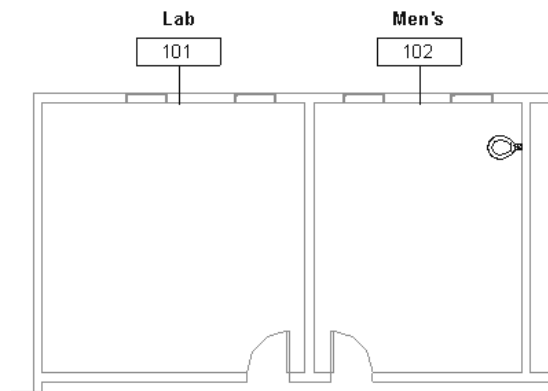

Figure 2–23
4. Click along one of the walls to place the fixture, as shown in Figure 2–23.